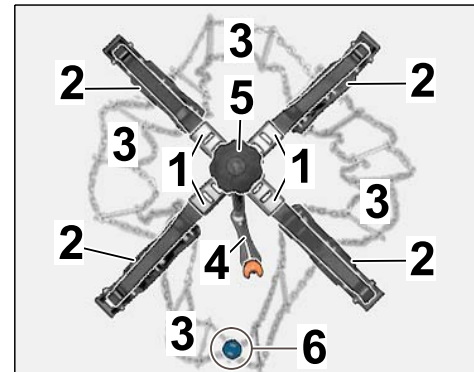

Figure 6
2.2.1 Open spring steel arms with plastic supports on the snow chain and sort out the chain net (⇒ *Figure 6*).